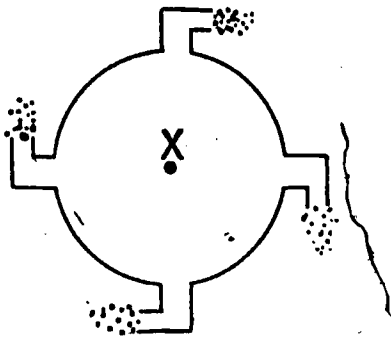

Figure 3A.-Diagram of Hero's engine.
- 3-26. In figure 3A, the steam escaping from the nozzles causes the engine to